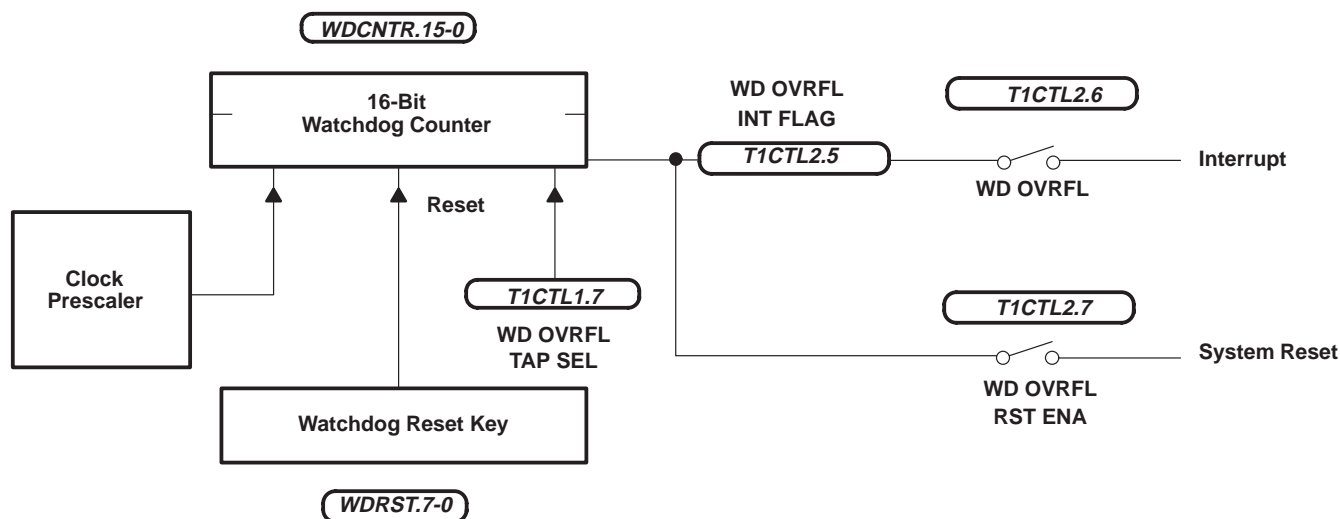

Figure 8. Standard Watchdog
- Standard watchdog configuration (see Figure 8) – for '76xA EPROM and mask-ROM devices